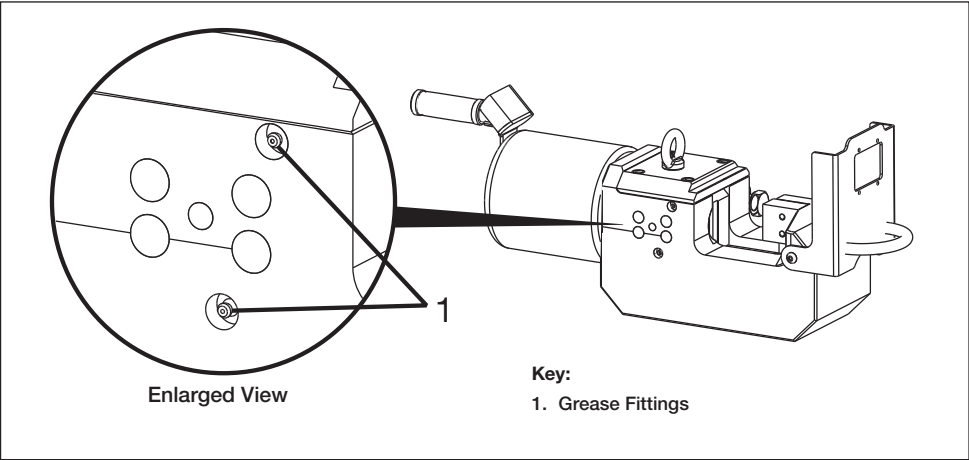

Figure 14, Lubrication
- 4. Using a grease gun, apply grease to the two recessed grease fittings located inside the access holes on the side of the cutter (Fig 14, item 1).